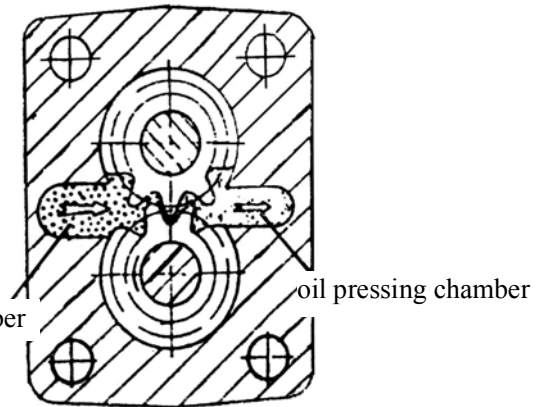

Fig.6-27 Working principal of gear oil pump
② Working principal of gear oil pump (Fig. 6-27)